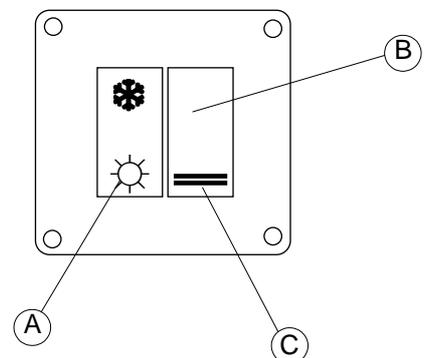

Figure 23
- 4) Press the button A summer/winter in the position winter ❄️ (see figure 23)
- 7) Otherwise the flame control unit locks out the heater: the gas supply to the burner is shut off and a lock-out light C on the reset button B lights up (see figure 23).
- 8) When default described at item 7) occurs, press the reset button B.
externally, on the rear panel, under the black screw plug (accidental power supply break - see figure 23).